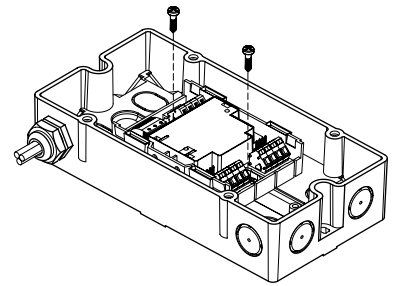

Fig. 3
- in FDCH221 housing (Fig. 3)
5. Use two M3 x 12 screws to fit the module in the housing (Fig. 3).
- Im Gehäuse FDCH221 (Fig. 3)